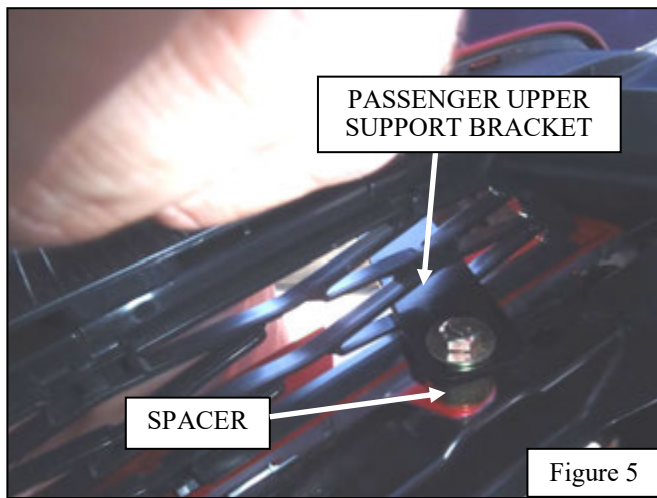

Figure 5
6. Loosely install the Driver Upper Support Bracket (Item 6) using (1) metal spacer, (1) M8 hex head bolts, (2) M8 flat washers, and (1) M8 nylock hex nuts (Items 14-16, 20). See **Figure 5** for reference.